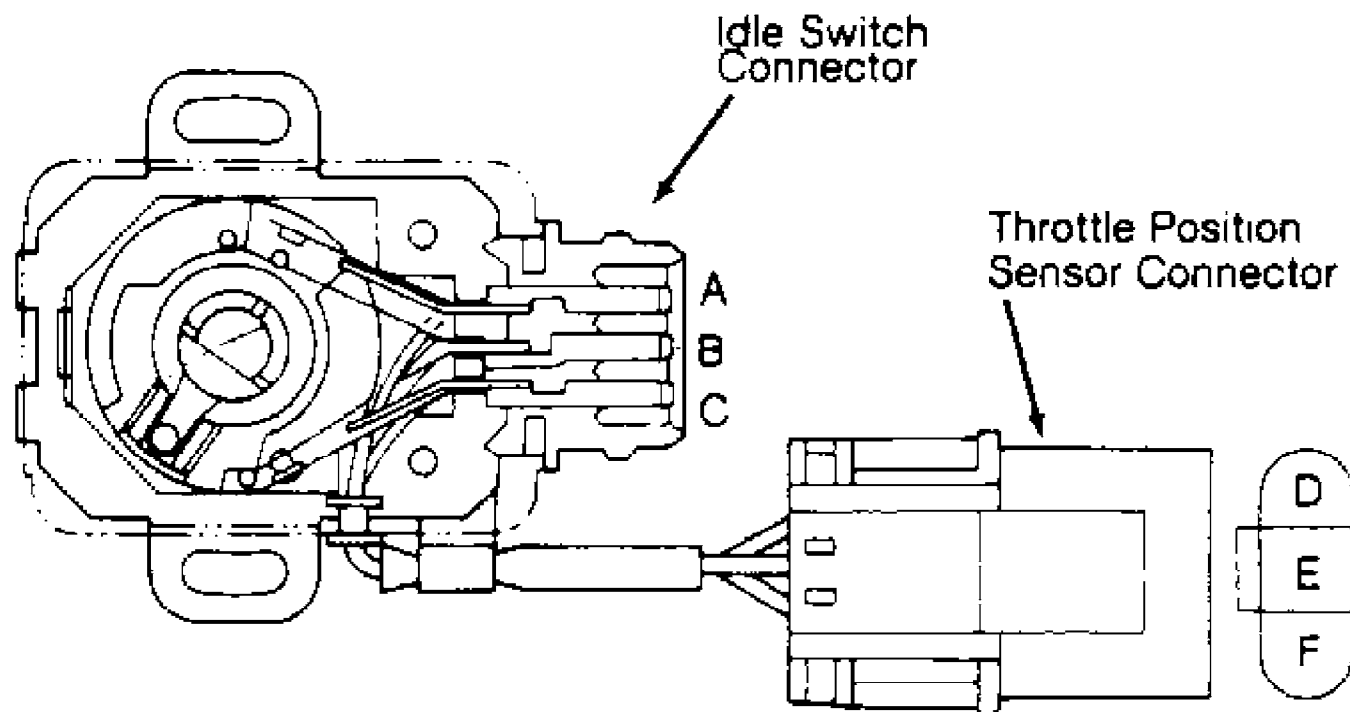

Fig. 4: Identifying Idle Switch & TPS
- 1) Disconnect throttle position sensor. Connect ohmmeter between terminals "E" and "F". See Fig. 4. Ensure resistance varies as throttle is opened and closed. If resistance does not vary, replace throttle position sensor.